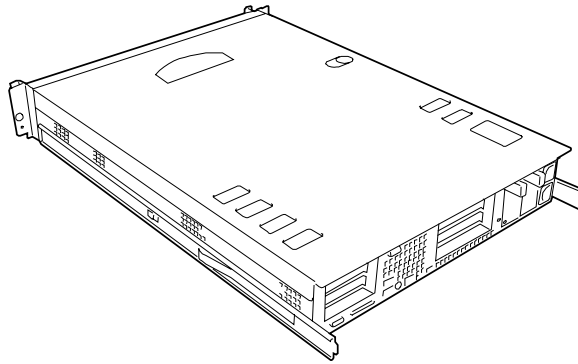

Figure 2-3. Inner Rails Attached to the Server
**Note:** The inner stationary rails remain screwed to the server when the rail assemblies have been removed. See Figure 2-3.